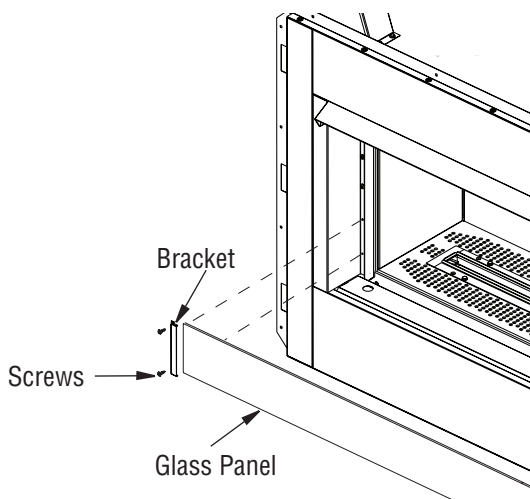

Figure 25a - Installing/Removing Glass Panel
The glass panel assembly should be installed after the fireplace is completely framed and finished. The brackets are attached to the front side face of the fireplace using two screws as shown in Figure 25a. Position the glass panel in the bracket so that it is securely in place.
3. Remove glass panel if installed (see Figure 25a).